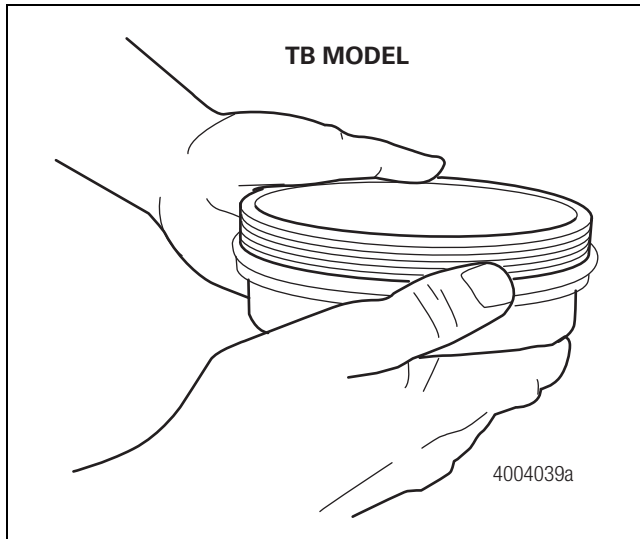

Figure 2.10
- On the TB model, check the hubcap O-ring for splitting or cracking. Figure 2.10.